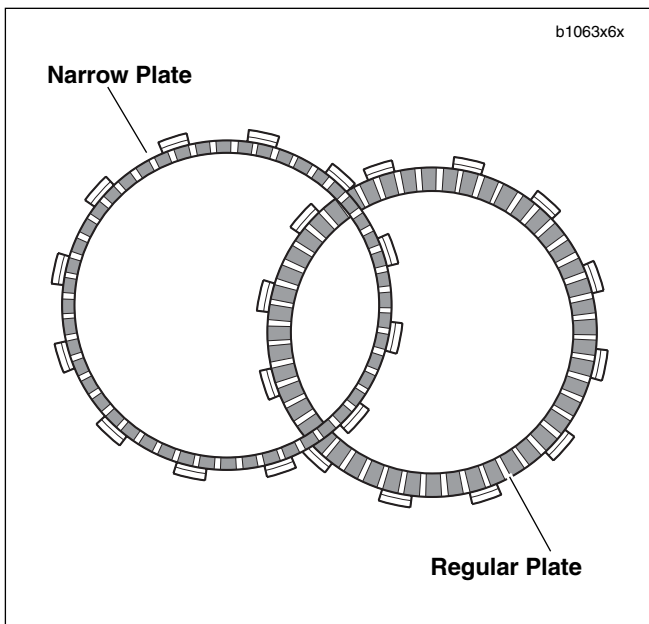

Figure 6-16. Friction Plates
2. See Figure 6-16. Install the narrow friction plate on the clutch hub engaging tabs on plate with slots in clutch shell.